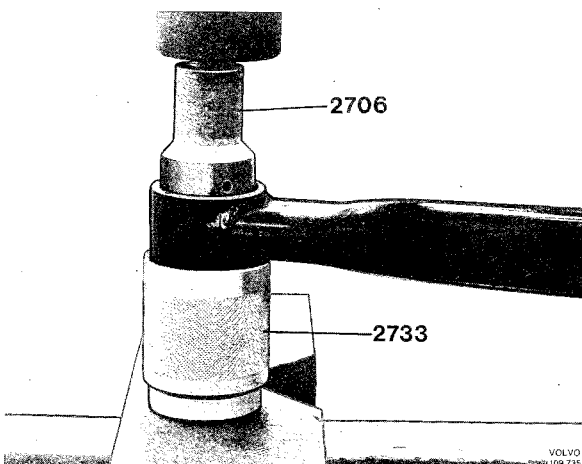

Fig. 7-25. Pressing bushing from body end
5. Press out the bushing on the body side with drift 999 2706 and counterhold 999 2733 turned with the narrow end facing downwards (Fig. 7-25).